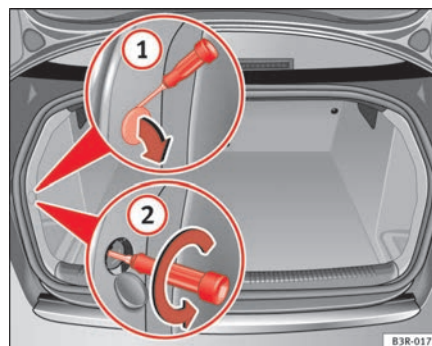
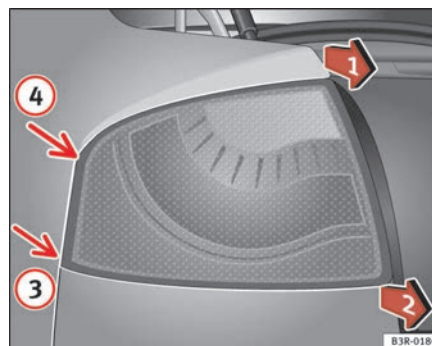

Fig. 208 Luggage compartment: Location of the bolt securing the rear light
Fig. 209 Removing rear light from side panel ▶
- Prise open the cover at the slot with the screwdriver ⇒ page 262, fig. 208 ①.
- Use the screwdriver to loosen the screw ② (arrow) located behind the cover.
- Gradually ease the rear light out of the mounting (⇒ page 262, fig. 209 positions ③ and ④) by pulling alternately in positions ① and ②.